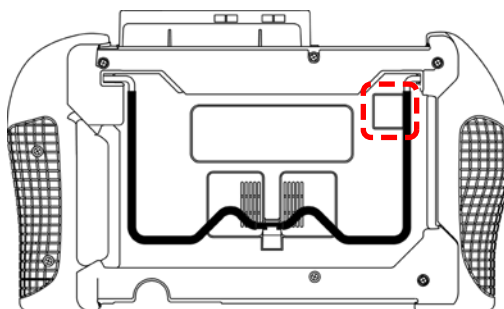

Figure 6-1 Release tab on back of the MODIS™ unit
4. Hold down the release tab (Figure 6-1) and slide out the Scanner™ Plug-in.